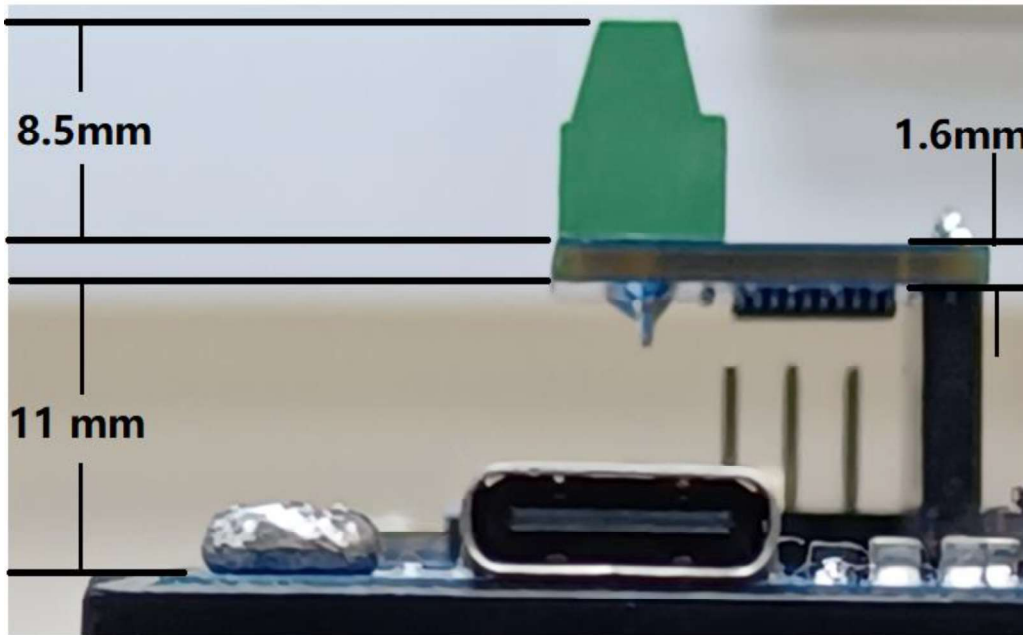

Figure 20 - Mating height between IDM2040-43A and IDM-RS232
- Connect the board to your computer and in Thonny go to Tools>Options and click on the interpreter tab. From the interpreter dropdown list select MicroPython (Raspberry Pi PICO). Choose port" USB Serial Device (COMX)". Figure 20 shows the Micropython with Thonny in ready status.